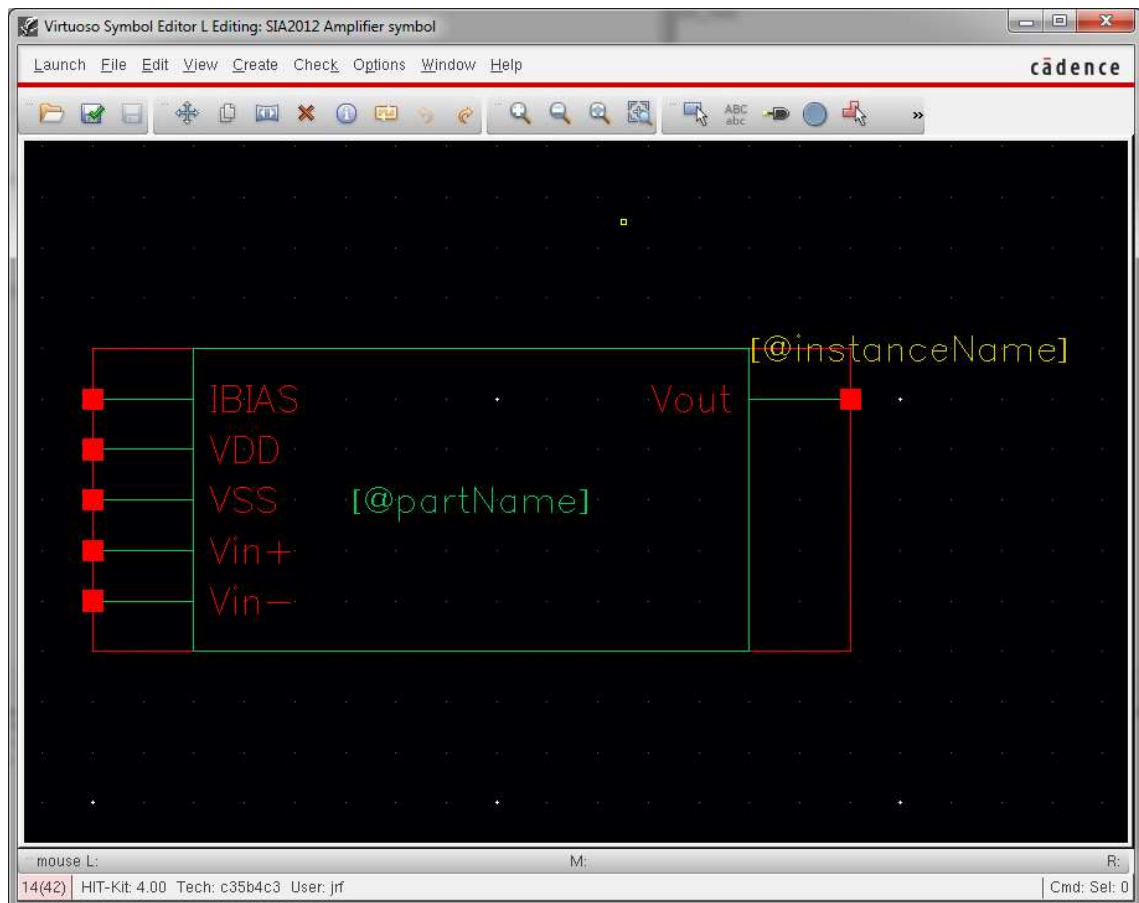

Fig. 5. Amplifier symbol
- c. A window with the created symbol opens (Fig. 5); it can be edited if one wants to have it more meaningful (Example: design an OPAMP symbol).